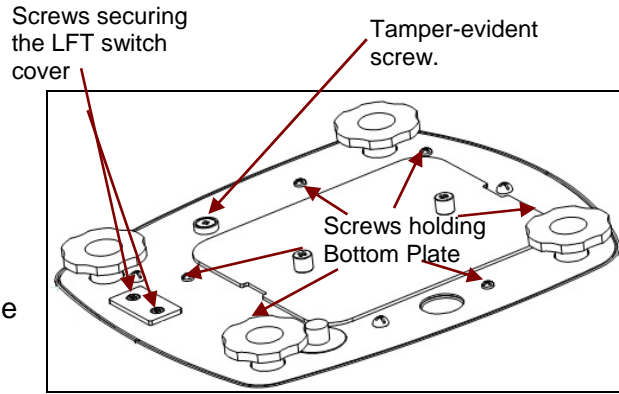

Figure 3-6. Bottom of Valor 3000 Xtreme W.
2. Remove the leveling feet and the two screws that secure the Legal-For-Trade (LFT) switch cover. (See Figure 3-6)
3. Remove the screws holding the Bottom Plate. Then lift off the Bottom Plate. (See Figure 3-6)